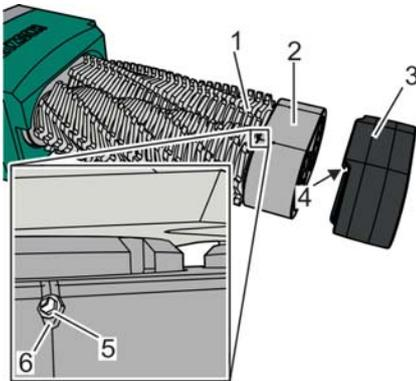

Fig. 73: Disassembling the rubber cover, example
7. ➤ Cover the cutter blocks (Fig. 73/1) in the lower section with a mechanically solid base and use a suitable tool to pry open the retention edge (Fig. 73/4) of the rubber cover (Fig. 73/3) and slide the rubber cover downward.
Remove the rubber cover (Fig. 73/3) from the bearing housing (Fig. 73/2) and place to the side.
9. ➤ Screw in all locking screws (Fig. 73/5) of the bearing housing until they engage in the grooves of the hold-down edges of the rotating slide ring sealing parts and secure them in this position